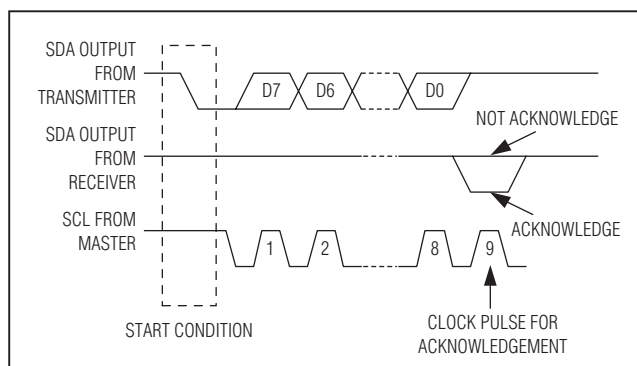

Figure 12. I²C Acknowledge
Both the master and the ICs (slave) generate acknowledge bits when receiving data. The acknowledge bit is the last bit of each 9-bit data packet. To generate an acknowledge (A), the receiving device must pull SDA low before the rising edge of the acknowledge-related clock pulse (ninth pulse) and keep it low during the high period of the clock pulse (Figure 12). To generate a not acknowledge (NA), the receiving device allows SDA to be pulled high before the rising edge of the acknowledge-related clock pulse and leaves it high during the high period of the clock pulse.